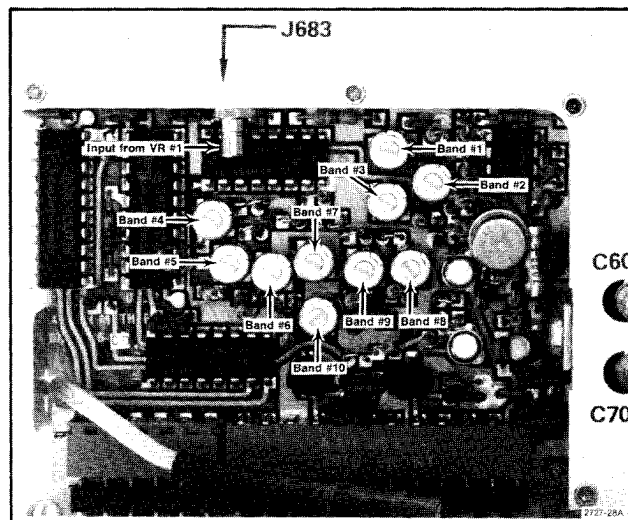

Fig. 3-49. Band leveling adjustments and gain diodes (when installed) on VR #2 module.
f. Adjust band 2 Gain R3034 (Fig. 3-49), for a full screen (-20 dBm) display.
i. Adjust band 3 Gain R3030 (Fig. 3-49), for a full screen display.
j. Repeat the above procedure for each coaxial band (1—5) and set the gain of each with the appropriate adjustment (see Fig. 3-49). If the range of any adjustment is insufficient, add or remove the appropriate diode (see schematics and Fig. 3-49) to obtain the required range. Adding the diode increases gain.
b. With -60 dBm input level applied, adjust band 6 Gain Leveling R3032 (Fig. 3-49), for full screen display.
c. Change the FREQUENCY RANGE and input signal level as listed in Table 3-12. Adjust the appropriate Band Gain adjustments (Fig. 3-49) for full screen display. Input levels and gain adjustment for the waveguide bands need to be adjusted only if these bands will be used.